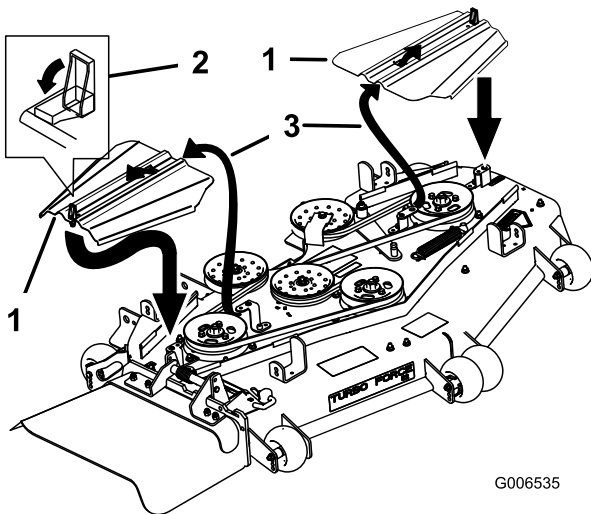

Figure 56
- Install the belt covers by sliding the cover into the tab, install the bolts, and close the latches (Figure 56).